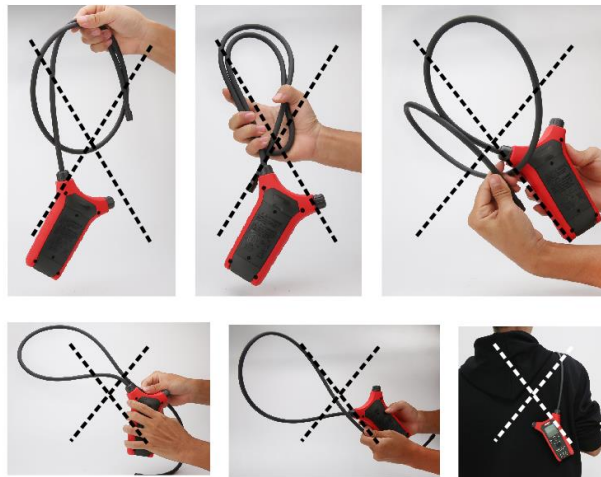

Figure 2.4
- 7) Do not perform the following improper operations. (see Figure 2.4)